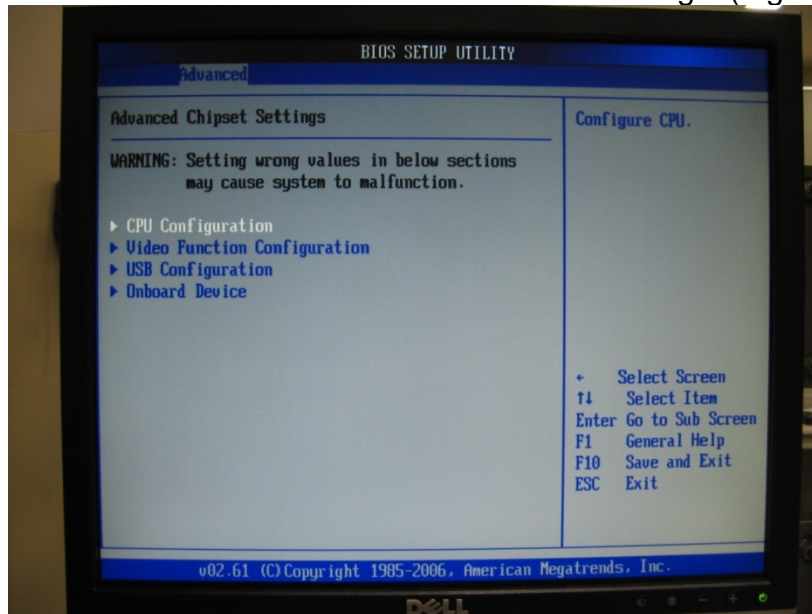

Figure 7-21 CPU Configuration Screen.
10. On the **Advanced** options screen, scroll down and select **Chipset**. Press **Enter**. (Figure 7-20). Figures 7-21, 7-22, show the various default settings. Leave on Default then press **Escape** to return to the **Advanced** options screen.
11. On the **Advanced Chipset Settings** Screen select **CPU Configuration**, Press **Enter** to see settings. (Figure 7-21).